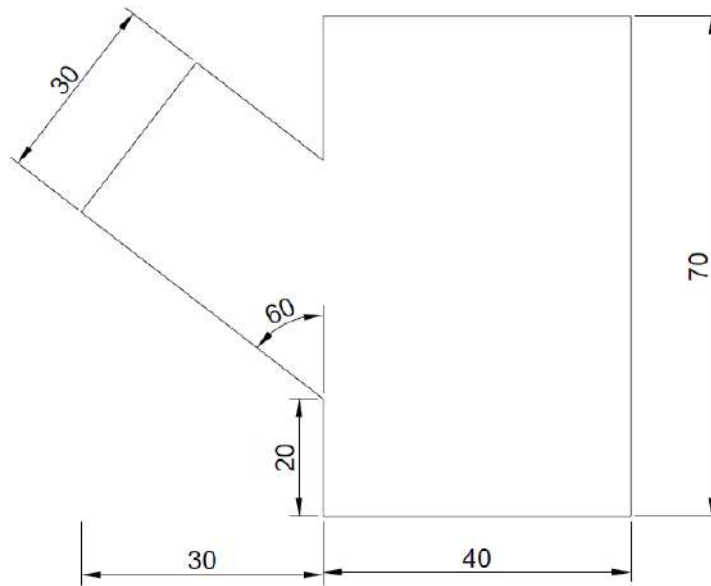

Figure 3 Branched cylindrical pipe
11. Figure 3 show a branched cylindrical pipe. Draw the complete plan, front elevation and the surface development for main pipe and the branch pipe. (20 Marks)